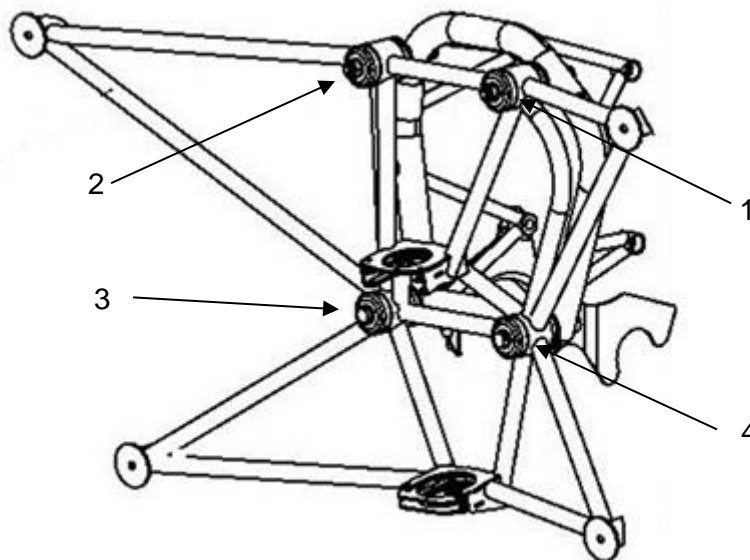

Figure 3: Bolt replacement sequence
Step 4: Once the engine is supported, the bolts can be replaced *one by one*. Refer to Figure 3 and replace the bolts in order. Remove bolt 1 and install a new bolt. Torque the bolt to 38 Nm. Ensure all washers, rubber stoppers and spacers are installed in the correct positions when replacing the bolts. Once bolt 1 has been replaced and torqued to 38 Nm, replace bolt 2, which should then also be torqued to 38 Nm.
- Step 8: After bolt 3 has been removed, install a new bolt. Ensure all washers, rubber stoppers and spacers are installed in the correct positions when replacing the bolt, as seen in Figure 3. Once bolt 3 has been replaced and torqued to 38 Nm, replace bolt 4, which should then also be torqued to 38 Nm.